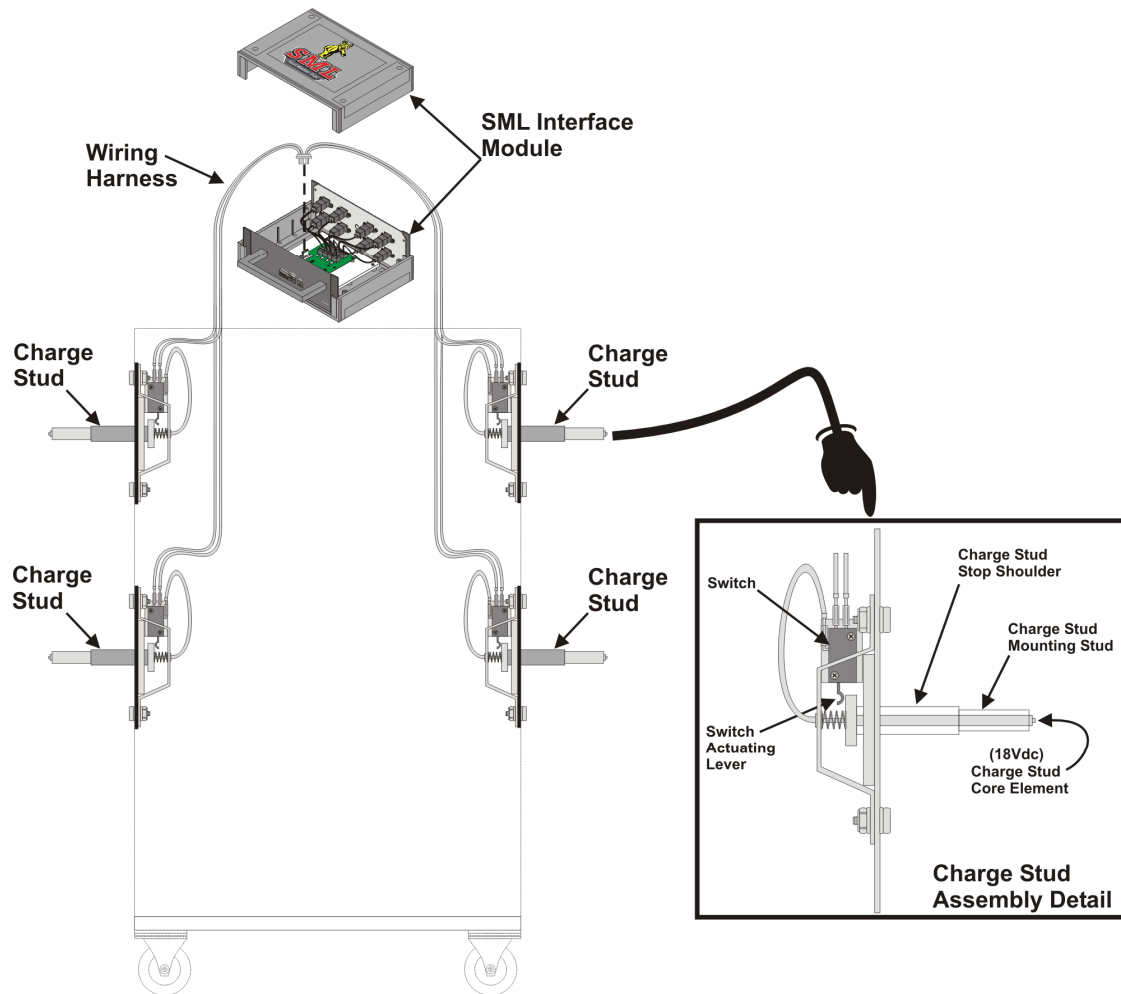

Figure 1-6. Charge Studs & Charging System - Overview Diagram
- 1.2.7.1 This kit consists of charge studs and a harness, enabling a standard cabinet to be outfitted with mounting posts and have an integrated 18Vdc wheel unit battery charging system. Therefore, this container can be opened, after the unit is assembled. Refer To Figure 1-6.